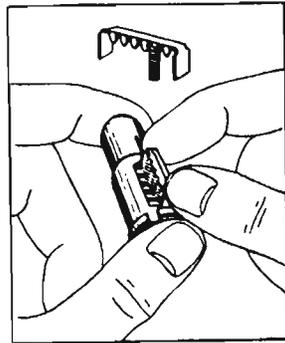

Fig. 1-17—Inserting spring retainer.
4. Reverse the lock cylinders so that the head of the cylinder is now toward you. Insert the spring retainer so that one of its six prongs enters into each of the springs and the two large end prongs slide into the slots at either end of the cylinder (fig. 1-17). Press the retainer down with one finger.